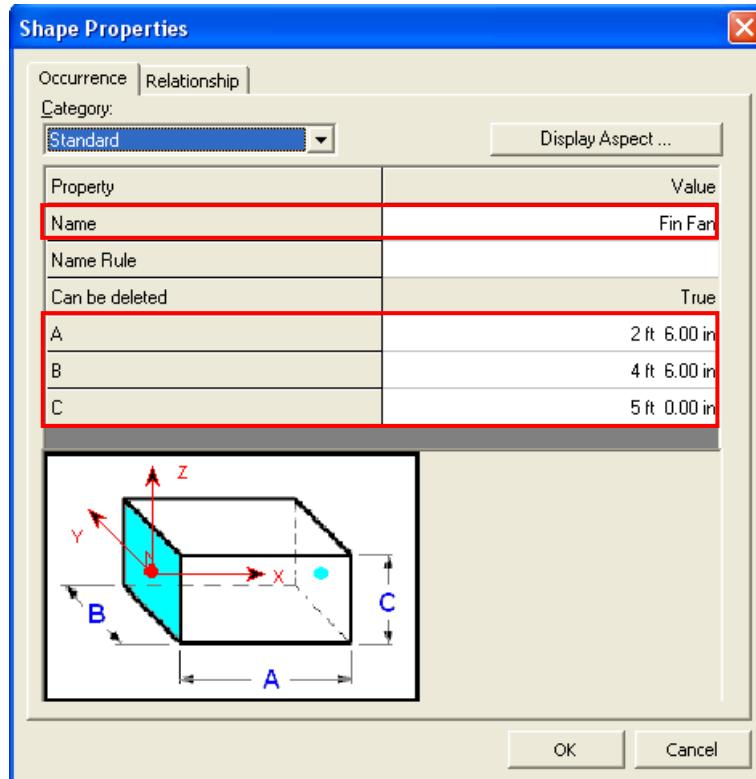

Figure 52: The Shape Properties Dialog Box
24. The **Shape Properties** dialog box opens. Change the **Name** of the shape to **Fin Fan** and key in the values: **2 ft 6 in** for **A**, **4 ft 6 in** for **B** and **5 ft** for **C**, as shown in Figure 52.